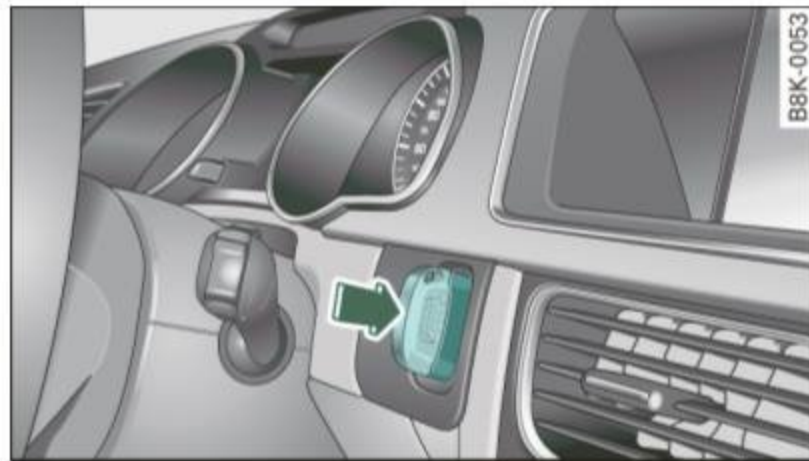

Fig. 116 Ignition key
- **Press** the key ⇒ fig. 116 - the engine will start.